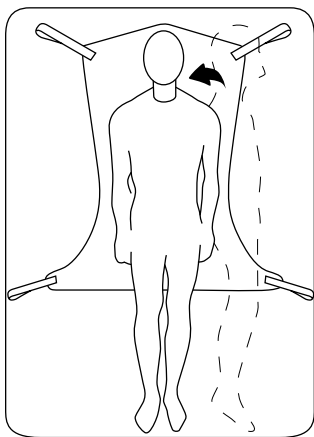

Figure 2
1. If the resident rolls onto his/her left side, then elevate the resident's right knee until the right foot is flat on the bed. (see figure 2).